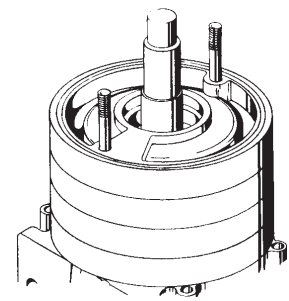

Figure 4-9
- To complete the second stage assembly, install a right hand channel ring (#9) facing downward toward the impeller.(refer to figure 4-9) The small discharge opening should be in the "seven o'clock" position.